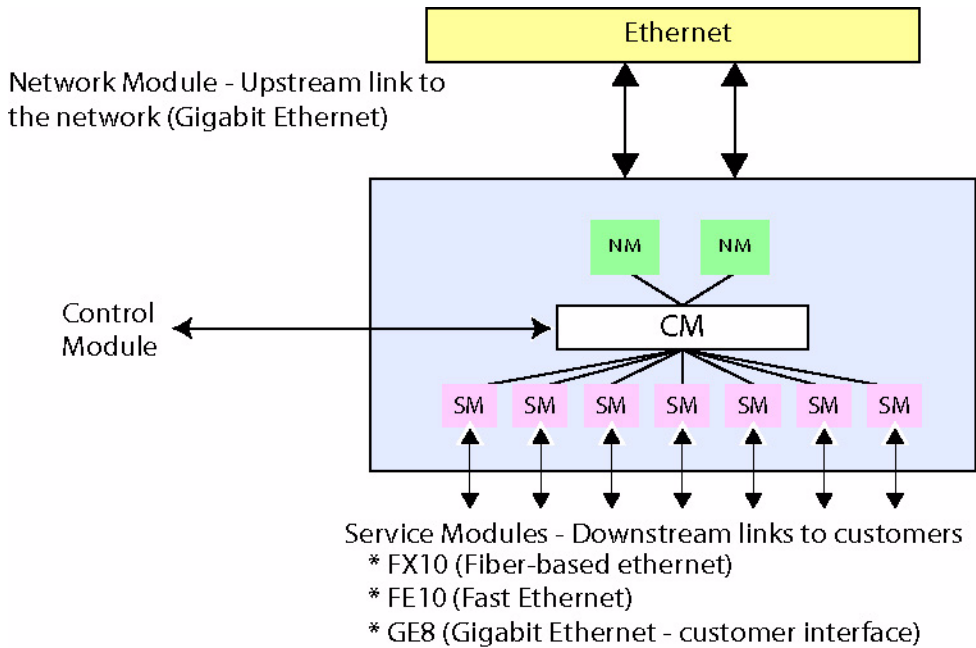

FIGURE 5-1 7000 and 9000 fMAP NM, CM, and SM for Ethernet Interfaces
fMAP uplink connections are made through gigabit ethernet Network Modules (NM). Each fMAP is configured with at least one NM. Subscriber access to the fMAP, and eventually the uplink, is made through a Service Module (SM). Service modules using Ethernet as their connection technology, are shown in Figure 5-1: